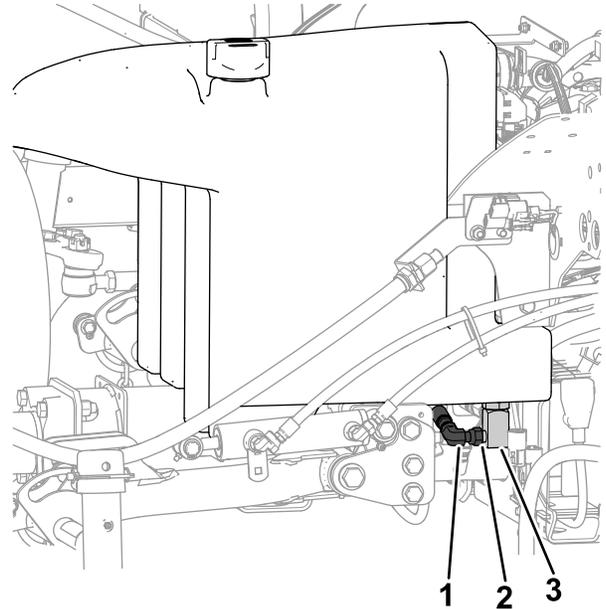

Figure 108
2. Place a large drain pan under the manifold (Figure 108) on the bottom the hydraulic tank; refer to Hydraulic Fluid Capacity \(page 65\).